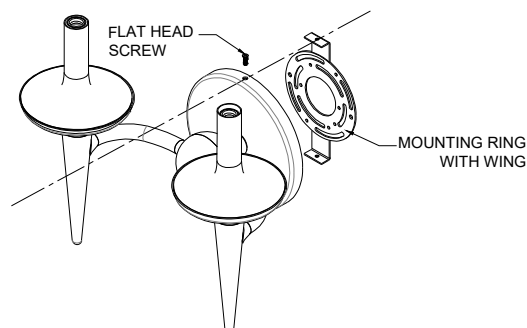

FIGURE-01
2. Remove the mounting ring with wing from the fixture by unscrewing the flat head screw. (See FIGURE-01)